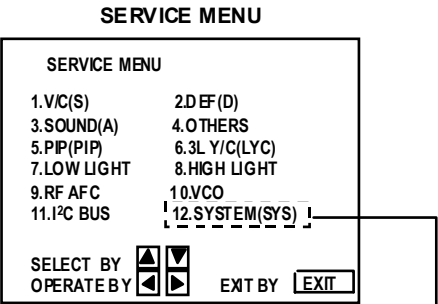

Fig.1
- (4) **System constant check and setting**
- ① Press the **SLEEP TIMER** key and set SLEEP TIMER for 「0 min」.
- ② Before disappear the display of SLEEP TIMER settings, simultaneously press the **DISPLAY** key and **VIDEO STATUS** key of the remote control unit. The SERVICE MENU screen of Fig.1 will be displayed.
Verify what to set in the SERVICE MENU, and set whatever is necessary (Fig.1). Refer to the SERVICE ADJUSTMENT for setting.